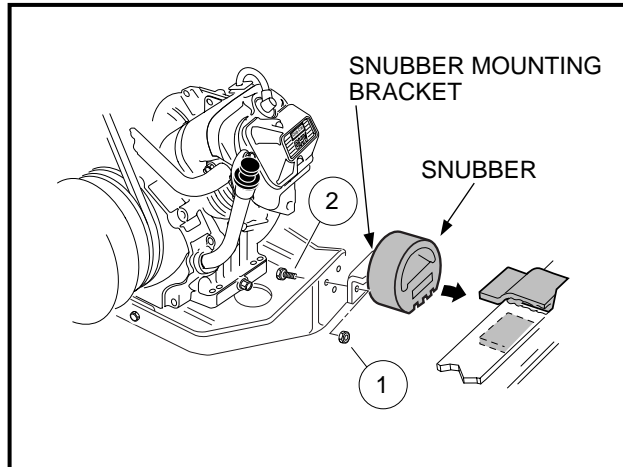

Figure 9-5 Snubber
2. Remove the two bolts (2) and two locknuts (1) securing the snubber bracket to the engine mounting plate (**Figure 9-5, Page 9-6**).
2. Tighten snubber bracket mounting nuts (1) to 13 ft-lb (17.6 N·m) (**Figure 9-5, Page 9-6**).